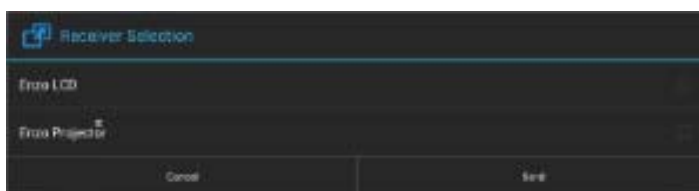

FIG. 125 G5 panel - Receiver Selection
1. If there are multiple Enzo units configured to use Content Sharing with the G5 panel, then a list of Enzo units is displayed to select from, in the *Receiver Selection* window (FIG. 125).